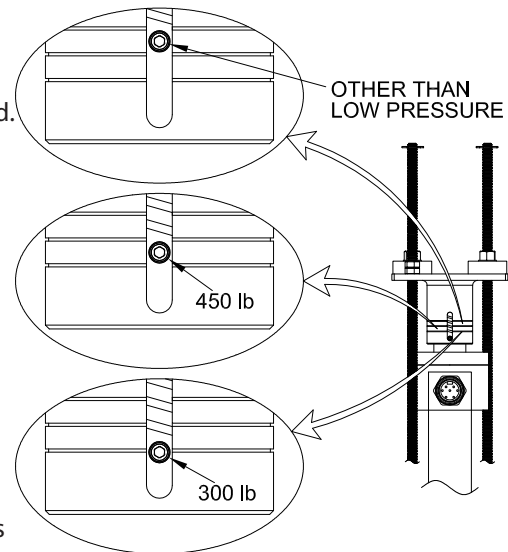

Figure 11: Sensor Load Indicators
4.7.5 A load is now applied at the top of the sensor forcing the bottom of the sensor to seat against the far wall. This keeps the sensor firmly in place against the far wall of the pipe. The amount of load is indicated by the three lines and set screw at the top of the sensor. See Figure 11. The bottom line indicates a 300-lb. load.